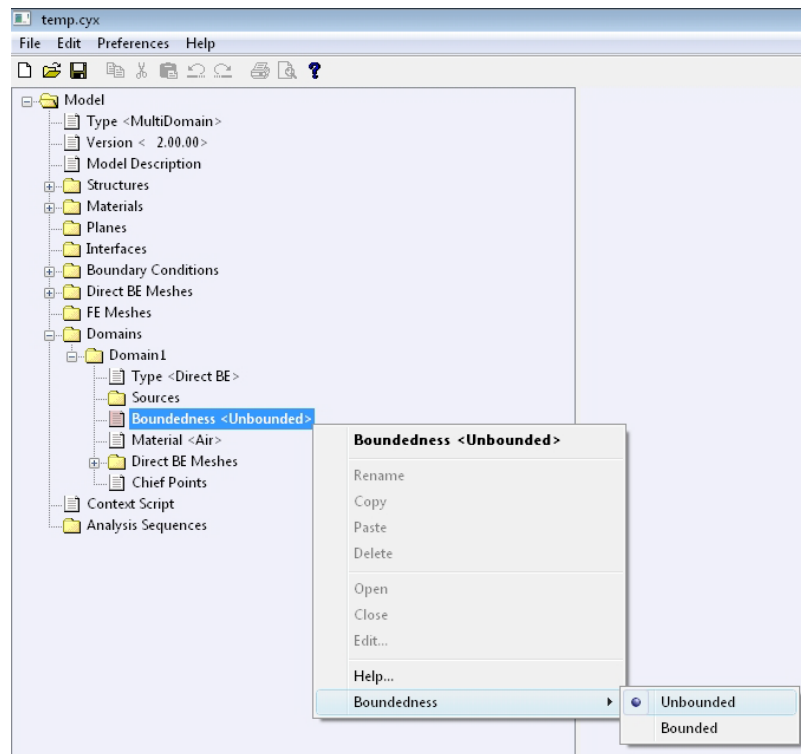

Figure A.20 Specifying boundedness of the domain.
- Specify the type of acoustic problem by selecting: **Model** → **Domains** → **Domain1** or *<Domain Name>* → **Boundedness**. The radiation from a gearbox housing is an exterior or unbounded acoustic problem. Right-click on **Boundedness** and select: **Boundedness** → **Unbounded** as shown in Figure A.20.